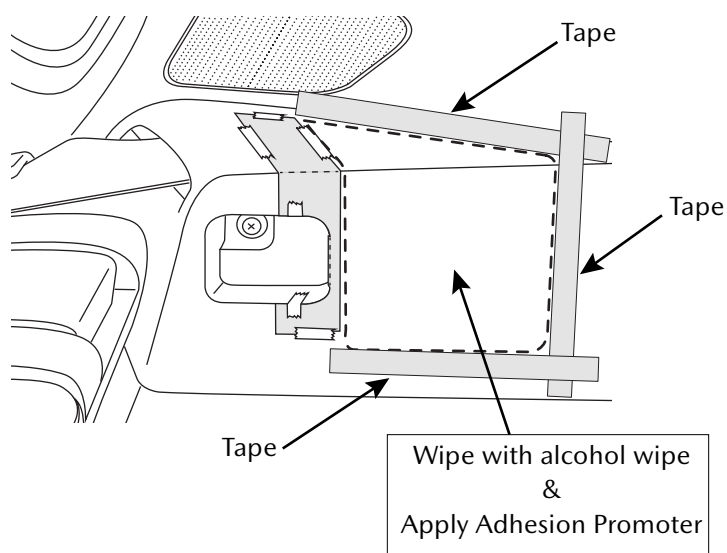

Figure 4
- B. Mask the area with painters masking tape on the outside of the marked line (dotted line) (Figure 4).
- D. Apply adhesion promoter directly onto the tape attachment areas of the surface (Figure 4).